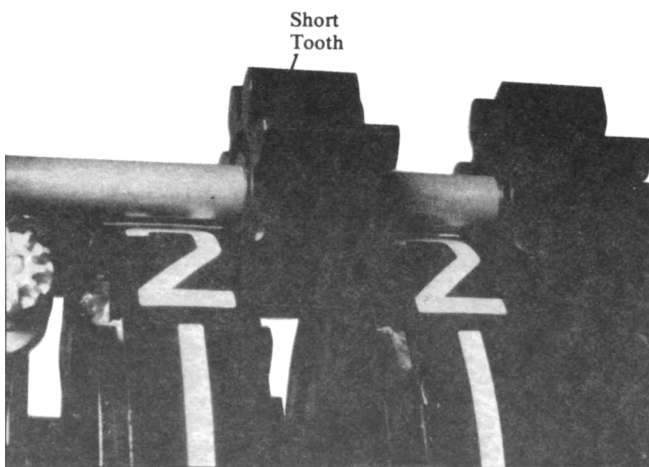

Figure 23. Pinion Positioning.
- Place pillions, with short finger up, in between each wheel as shown in Figure 23.